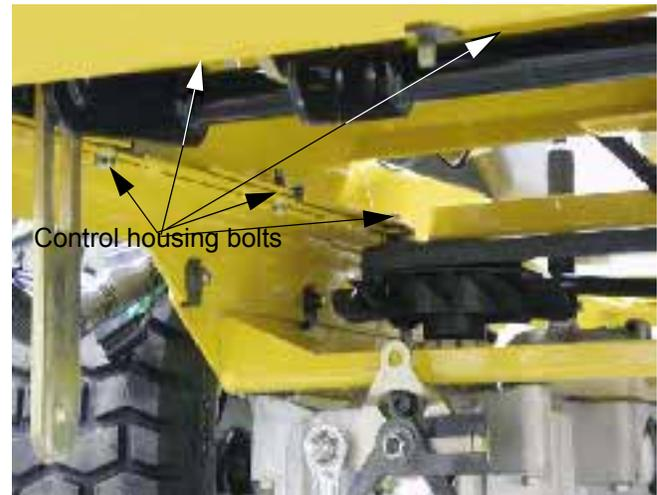

Figure 11.23
11.23. Remove the bolts that hold the control housing to the frame using a 3/8" socket. See Figure 11.23.